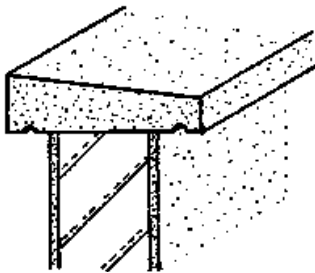
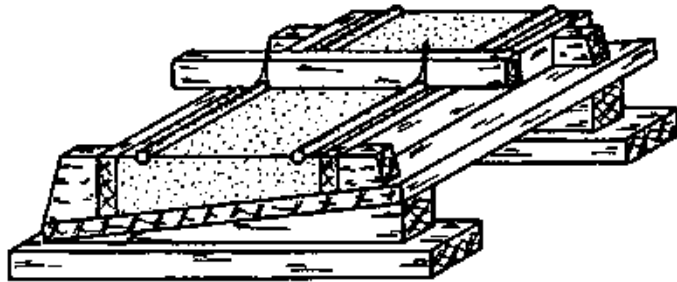

Fig. 4
Fig. 5
- SPLAYED COPING: The splayed coping in Fig. 4 can also be made in two ways, in a fashion similar to the saddle-back coping above (Figs. 5 & 6).